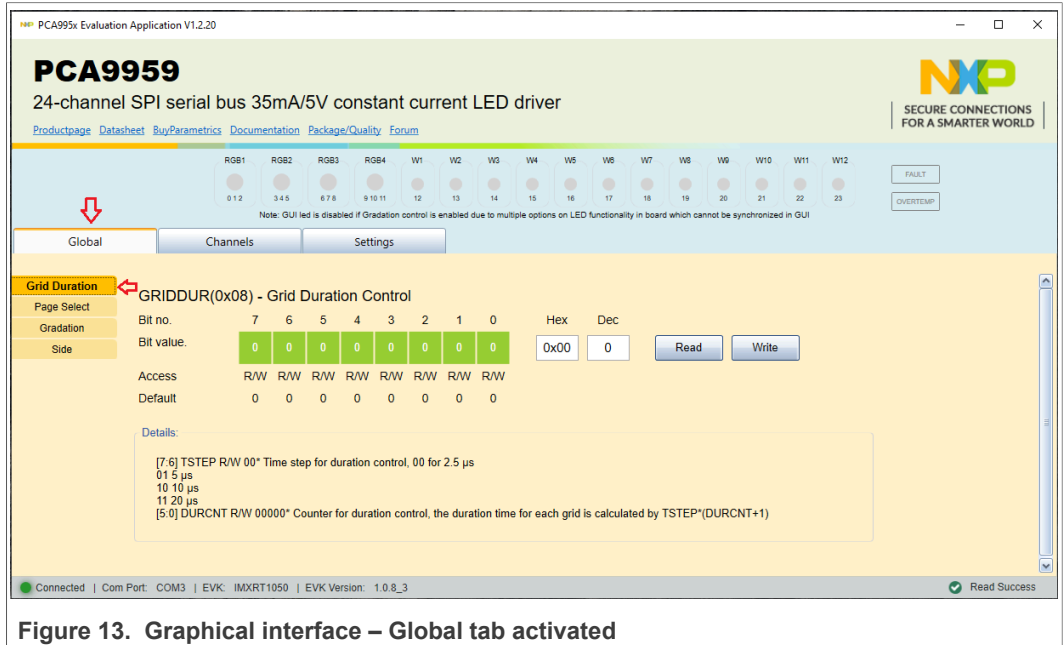

Figure 13. Graphical interface – Global tab activated
The Global tab contains four secondary tabs. The default secondary tab is **Grid Duration** (see the red arrows in Figure 13). The four secondary tabs set four internal registers of PCA9959 device. Table 4 details the names and address of the registers.
11. Click **Global** → **Page Select** (see Figure 13). From the interface set the value “1” for bit 7 (in the displayed byte is the only active bit), and then click **Write**.